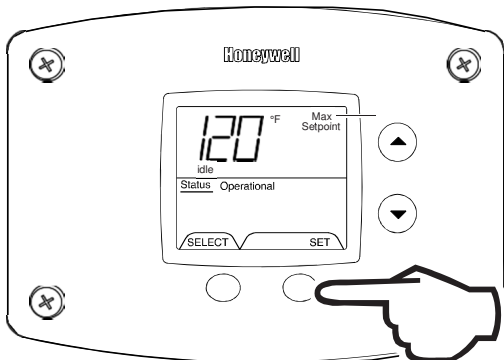

Fig. 43
4. Press 'Set' button to confirm new 'Max Setpoint' value and stop setting mode (Fig. 43).